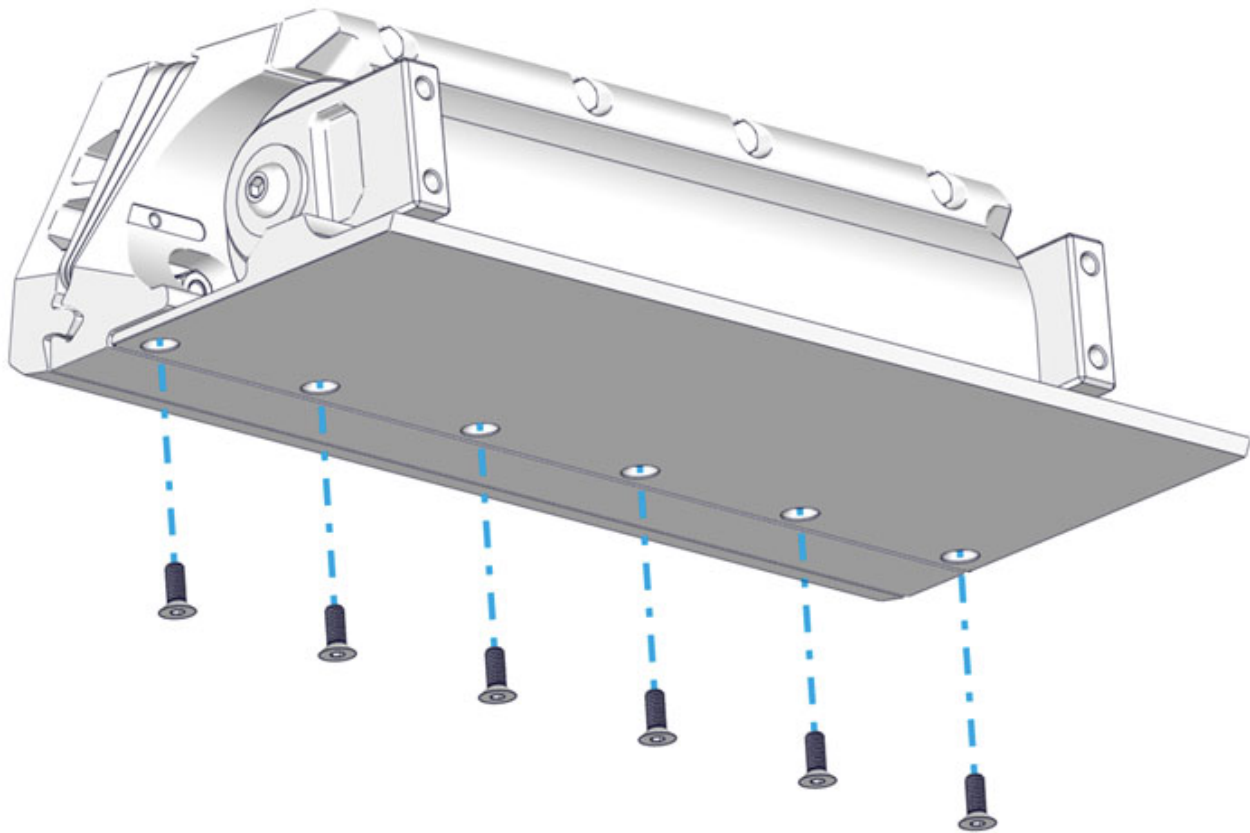

Figure 69 – Bottom Bolts Installation
7. Apply thread locker and insert the bottom six (6) M6-1.0 x 16 mm Torx Flathead Screws. Torque to 80 in-lbs (9 N-m) in an alternating pattern. Repeat the top torquing sequence two (2) times or until the bolts do not rotate when achieving the torque (Quantity nine [9] bolts for 525 Controllers and ten [10] for 750 mm Controllers) See Figure 69 – Bottom Bolts Installation.
8. Torque the top four (4) M6-1.0 x 30 mm Hex Head Bolts to 50 in-lbs (5.7 N-m) in an alternating pattern. Repeat the top torquing sequence two (2) times or until the bolts do not rotate when achieving the torque. This ensures an even clamping force is applied across the Actuator. (Quantity four [4] bolts for 525 Controllers and six [6] for 750 mm Controllers).